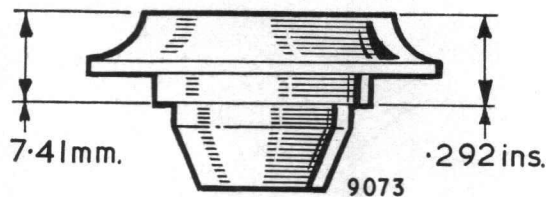

Fig. 39A. Valve cap—minimum distance from top rim
3. After grinding the valve stem end, check that the selected shim stands not less than .006 in. (.15 mm) above the top rim of the spring collar. If needed the collar top rim can be ground off so that its dimension from the inner valve spring face is reduced to, BUT NOT BELOW, the dimension shown in Fig. 39A.
4. After refitting the tappet block to the cylinder head, check that the inside upper face of the tappet does not foul the valve spring cap, by coating the inside top face of the tappet with red lead, or blue marking, and rotating the tappet with the REQUIRED SHIM IN POSITION. If marking is seen on the valve collar, a small amount can be ground off the collar top rim, taking care NOT TO COME BELOW the dimension shown in Fig. 39A.